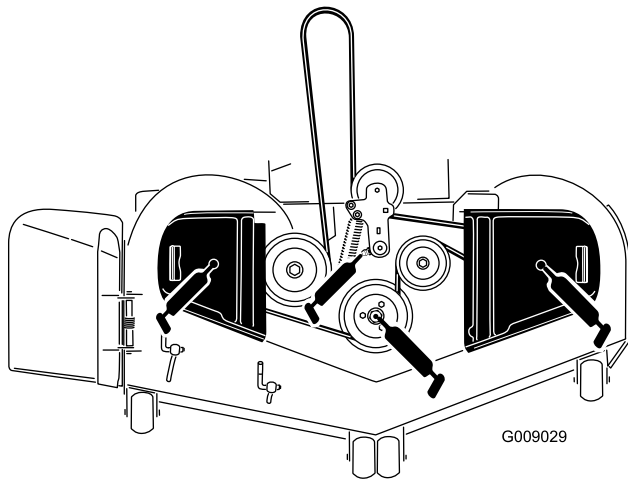

Figure 43
3. Grease the mower deck idler pulley pivot until grease come out the bottom (Figure 43).
4. Grease the fittings on the top of the 3 spindle bearings until grease come out (Figure 43).
5. Grease the drive belt idler arm (Figure 43).